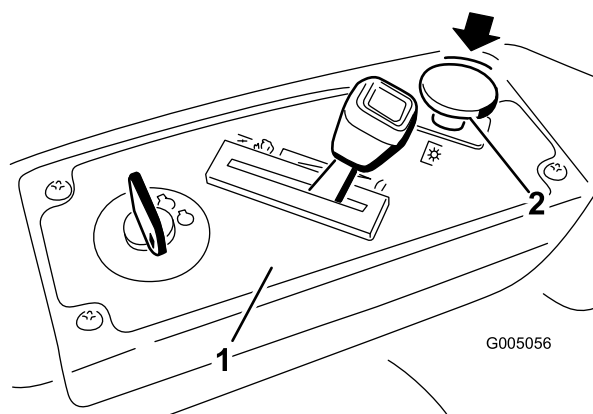

Figure 10
2. Disengage the blades by moving the blade control switch to Off (Figure 10).